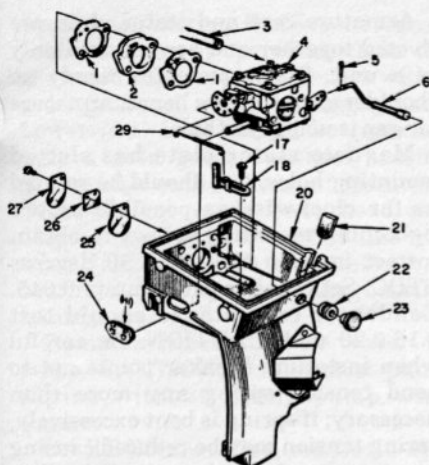

Fig. HL63—Exploded view of XLA115-1 generator engine air box assembly. Mechanical governor parts are shown in exploded view of generator in Fig. HL70.
GENERATOR GOVERNOR. Engine speed on generator applications is controlled by a mechanical flyweight type governor located within the generator unit; refer to exploded view of generator in Fig. HL70. Slotted end of extension shaft (1) fits over pinned end of carburetor throttle shaft. Centrifugal force of governor weights (64) acting through arms (63) actuate governor cup (40), cam (16) and connecting linkage against force of governor spring (39). The spring (29—Fig. HL63) in air box is adjusted to full tension and is used as a throttle opening spring and to keep slack out of linkage.
If carburetor has been removed, reconnect throttle opening spring as indicated in Fig. HL63. If plate (18) has been removed, reinstall screws loosely, push plate to apply as much spring tension as possible (to end of slot) and tighten screws. Servicing of the mechanical governor unit requires disassembly of the generator unit; refer to exploded view in Fig. HL70, and to GENERATOR paragraph.